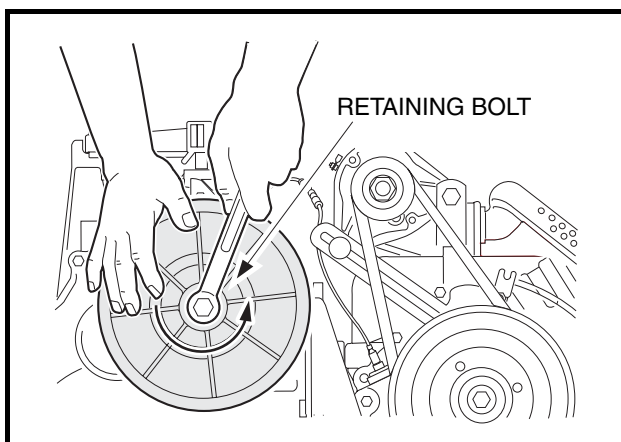

Figure 16-30 Driven Clutch
17. Remove the driven clutch retaining bolt and remove the driven clutch from the unitized transaxle (**Figure 16-30, Page 16-13**).